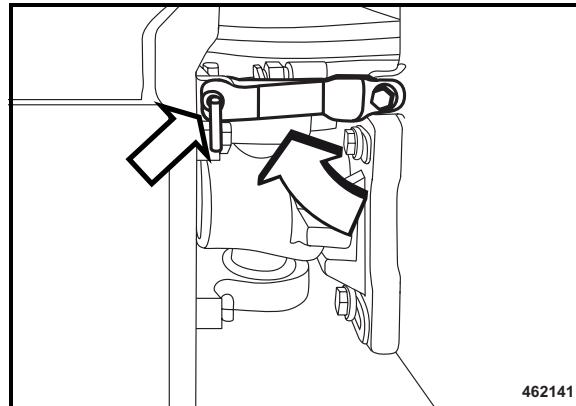

Fig. 106
- After driving the machine onto the transport vehicle attach and secure the articulation lock (Fig. 106).